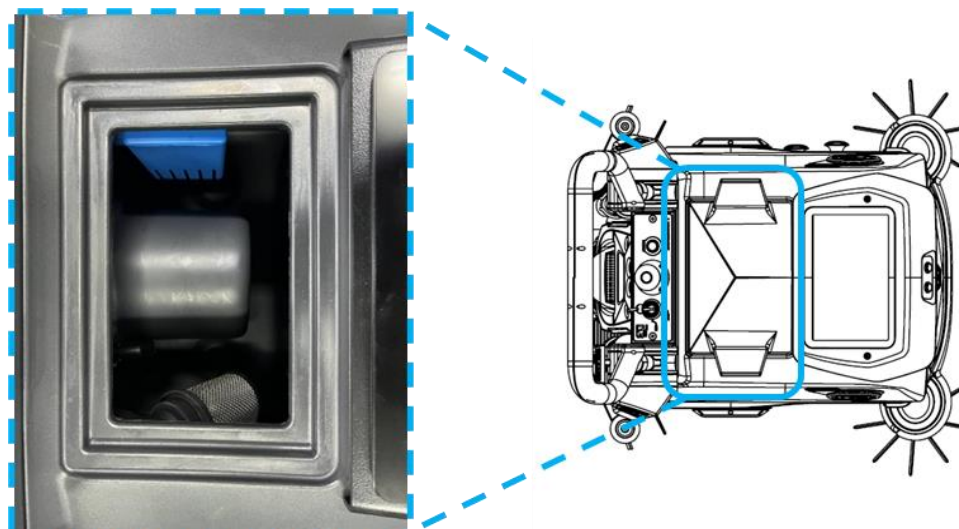

FIGURE 10-3
3. Remove the top hatch (Fig. 10-3) and carefully store it.